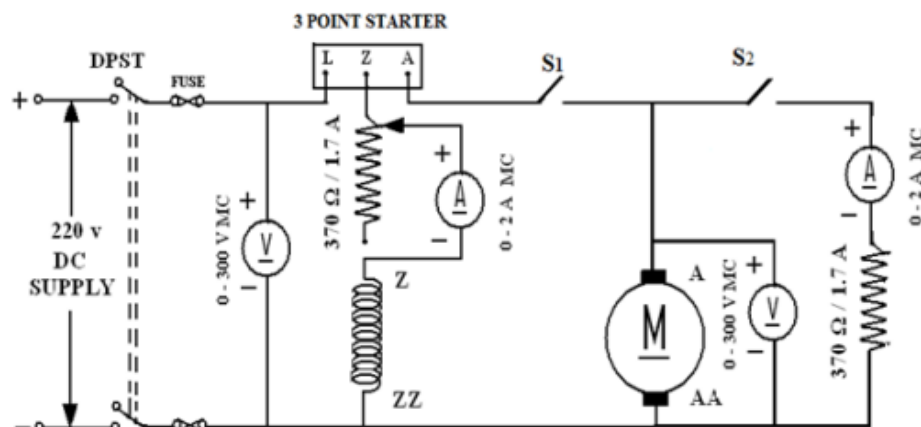

Figure 10 - Retardation Test
3. Calculate the efficiency of DC shunt machine when time taken for the speed to fall from 1030 rpm to 970 rpm is 15 seconds with field normally excited in figure 10.